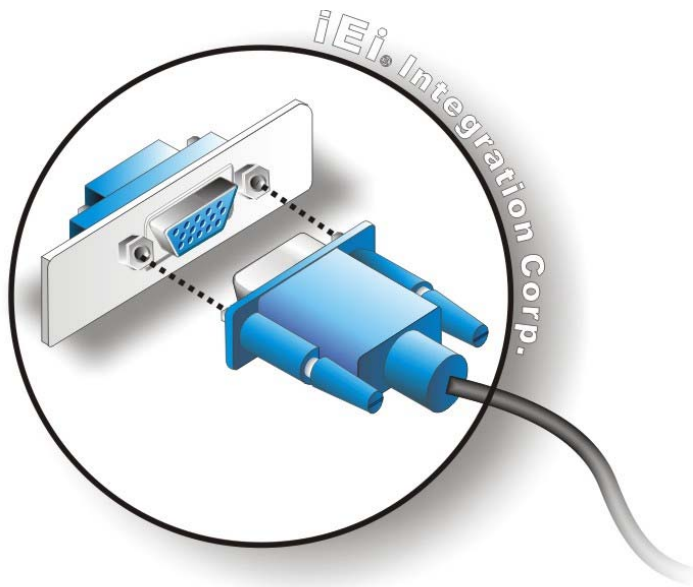

Figure 3-32: VGA Connector
- Step 3:** **Insert the VGA connector.** Once the connectors are properly aligned with, insert the male connector from the VGA screen cable into the female connector on the ECW-281B-D2550. See **Figure 3-32**.